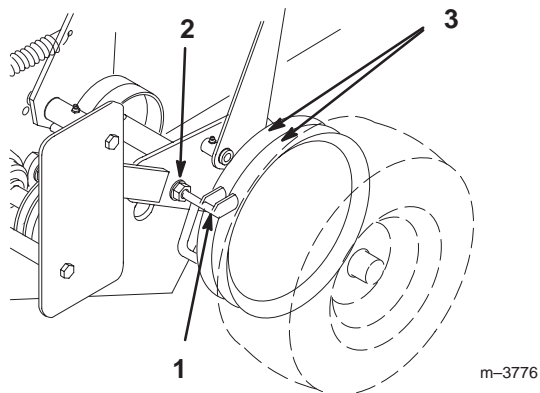

Figure 51
1. Loosen the locknut holding scraper to the engine frame (Fig. 51).
2. Rotate scraper until they align with center of pulley grooves (Fig. 51).
3. Tighten the locknut (Fig. 51).